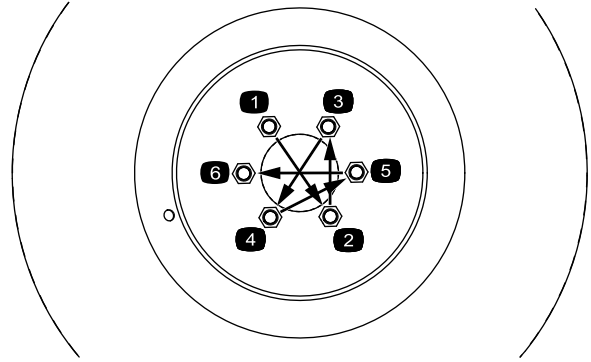

Figure 14
2. Install the front tires using the lug nuts previously removed. Torque the lug nuts to 94 to 122 N·m (70 to 90 ft-lb) in a crossing pattern (Figure 14).